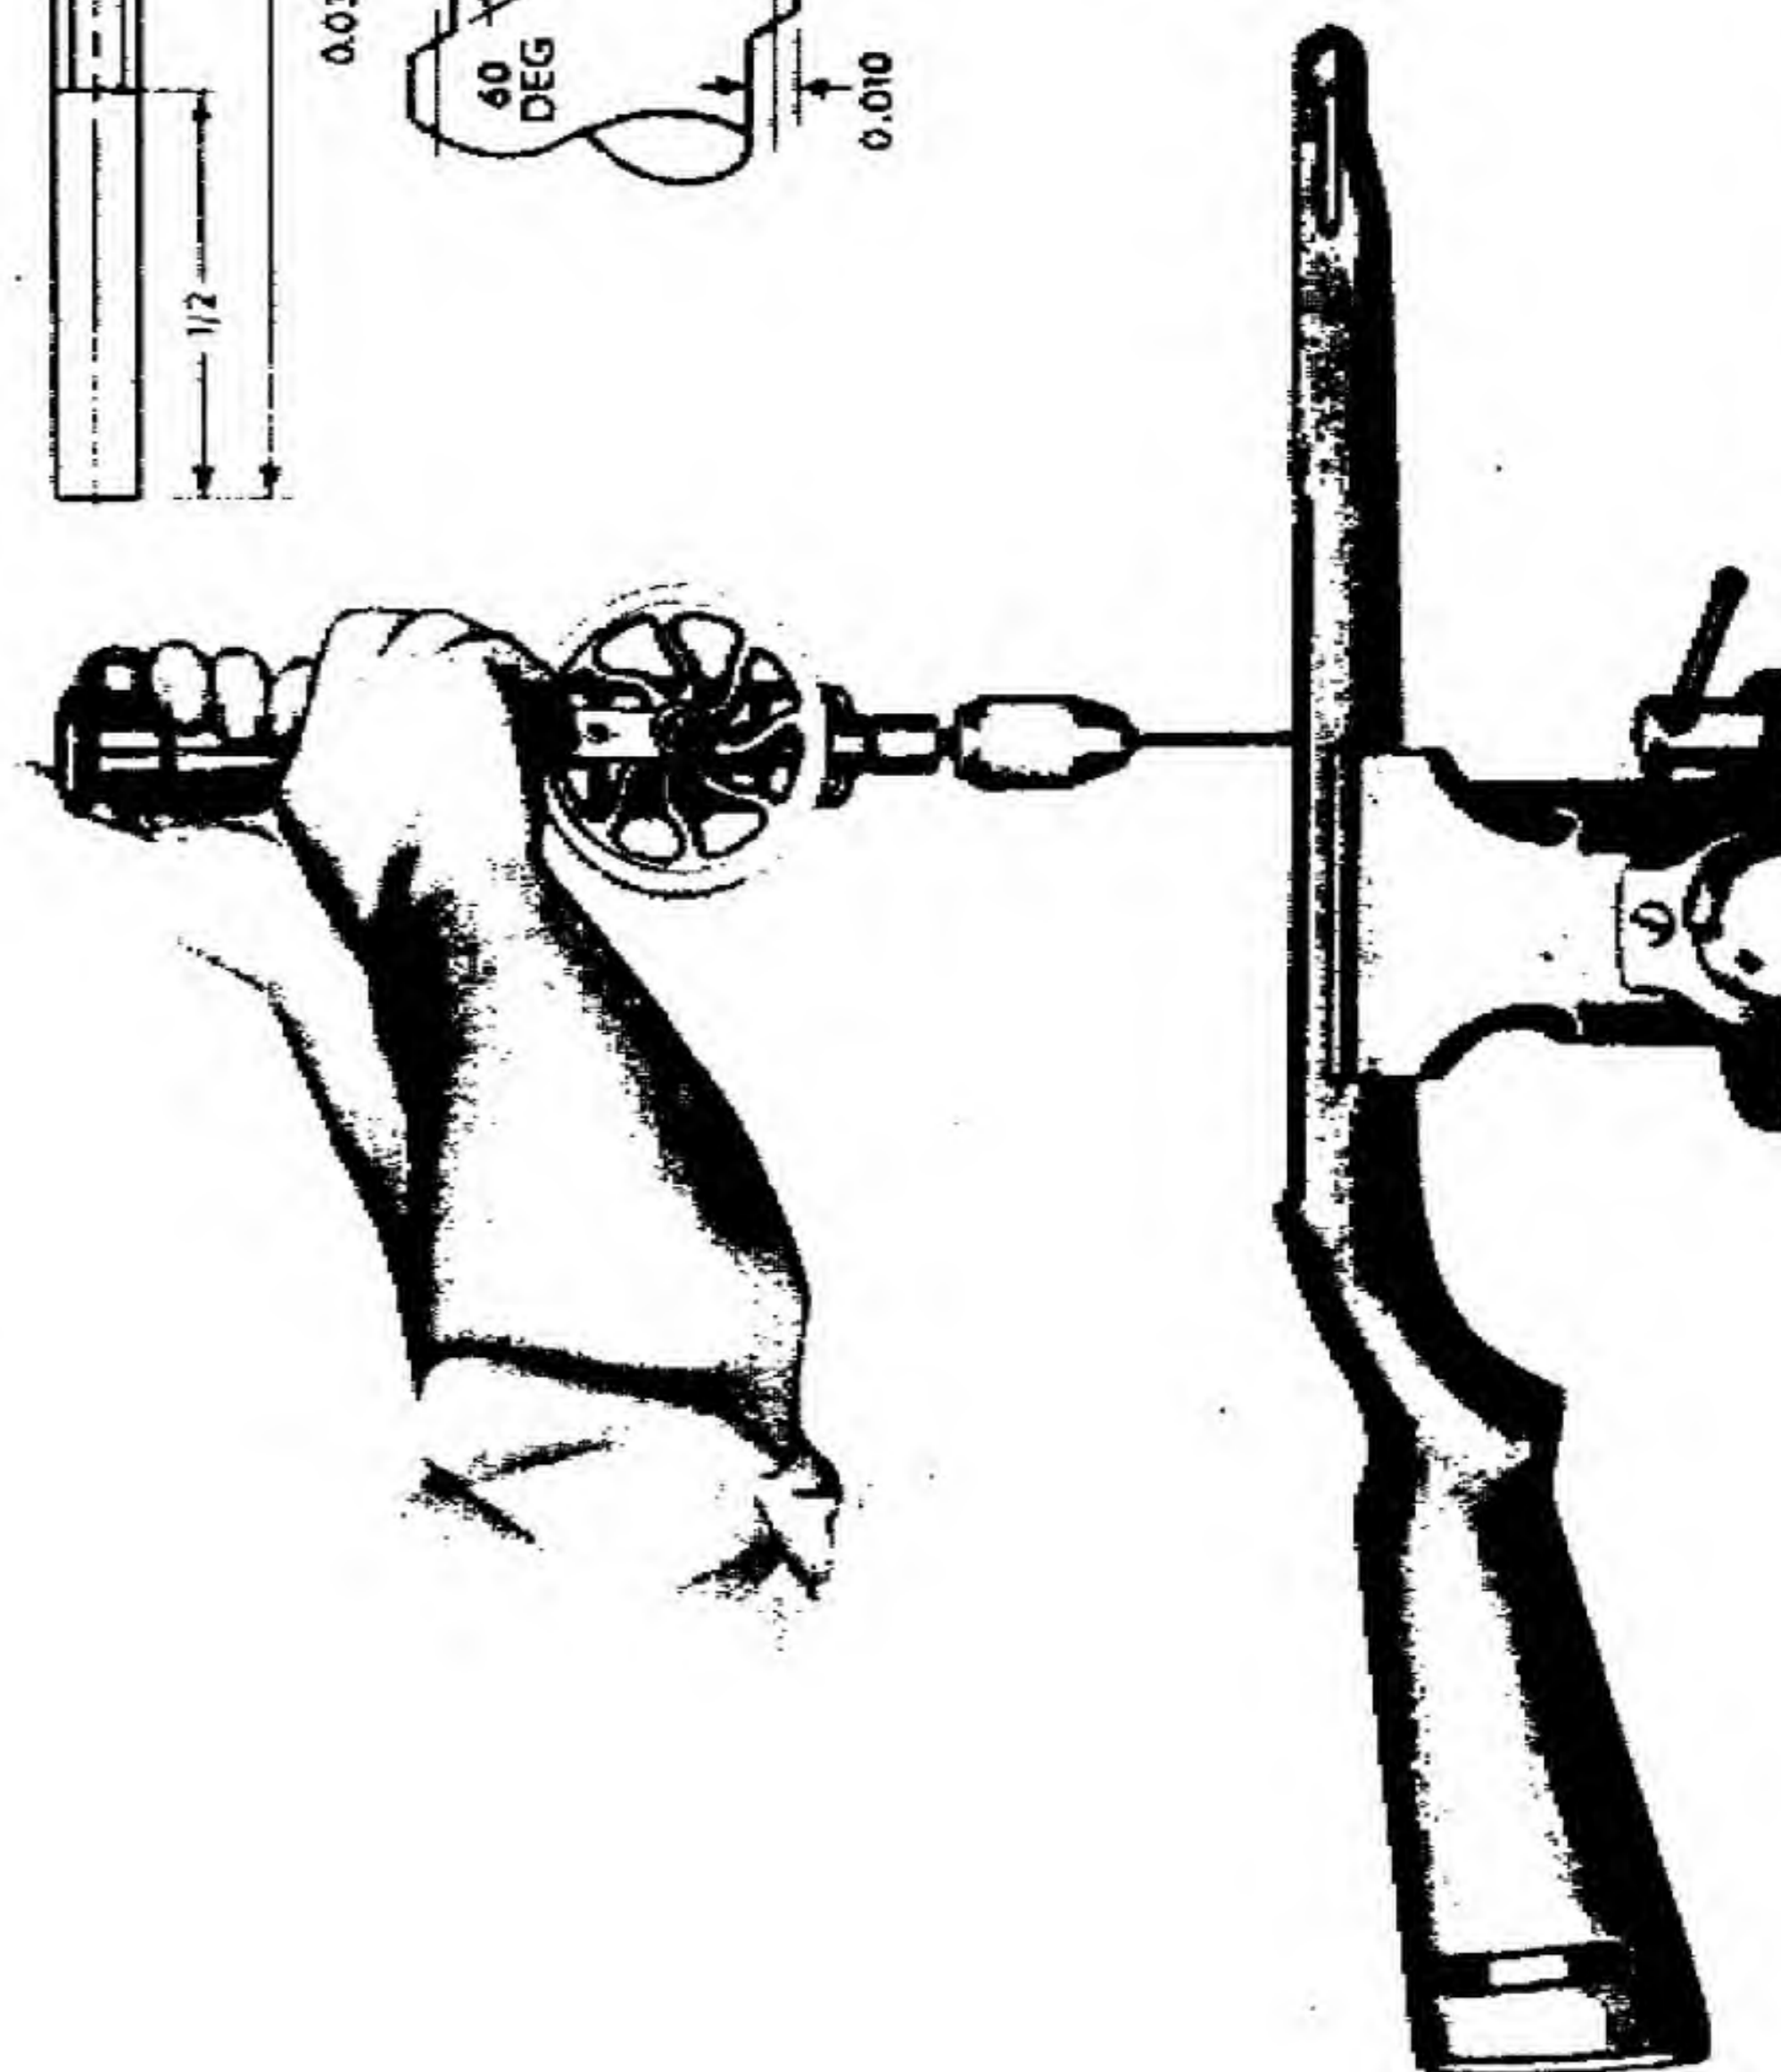

Figure 102. Installing repair screws.
- (1) *Dents.* Sand out dents or mutilations that do not affect strength or general appearance; use wood dough if practicable.
- (2) *Cracks.* Components which are cracked in such a manner that strength is affected must be replaced. Where the strength is not affected, use repair screw A233523, or similar screw machined from brass to reinforce weak areas and small cracks. Drill an 0.081-inch hole to receive screw (fig. 102). Install screw by gripping it in chuck of a hand drill. Cut off screw and file flush with stock so that no edges protrude. Wherever possible dovetail patches in. In figure 101, the